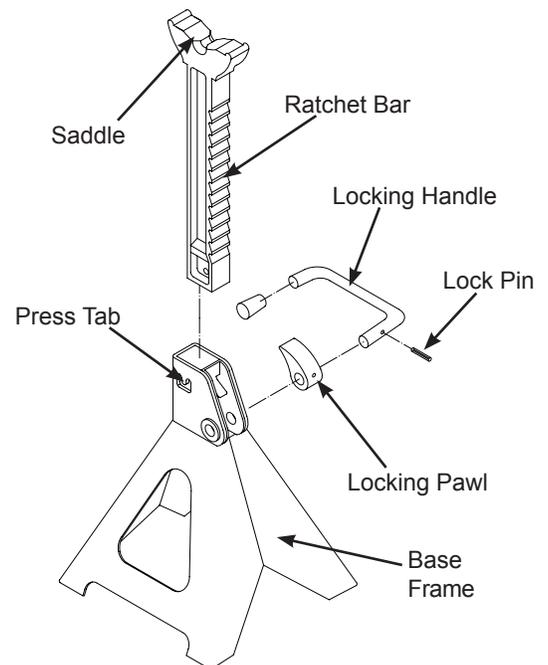

Figure 2 - Jack Stand Components
3. Ratchet/ collar lock is accomplished by simply pressing the press tab (see Fig. 2) inward using a suitable hammer and punch. This will effectively prevent inadvertent loss of the ratchet bar.